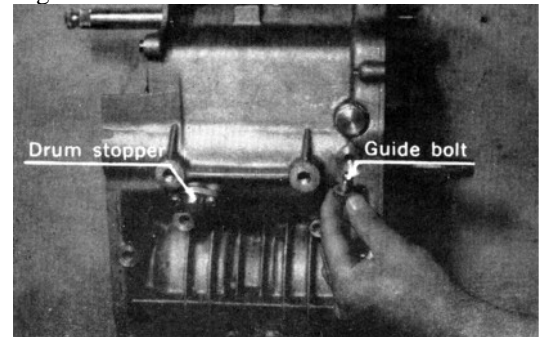

Fig. 30 Removing guide bolt and drum stopper
- a) To remove shift drum, take off guide bolt, drum stopper, and guide stopper plate. Then pull out two guide pins in the direction of right crank case cover. (Fig. 30, 31, 32)